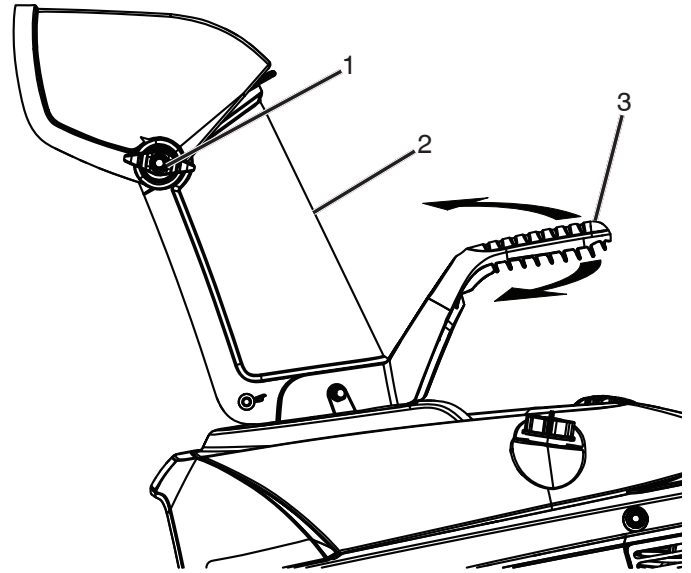

Figure 18
1. To adjust the discharge chute, move deflector chute handle left or right to desired position (Figure 18).
2. To raise or lower the angle of the chute deflector, loosen the chute deflector knob on the chute deflector and move the chute deflector up or down (Figure 18).